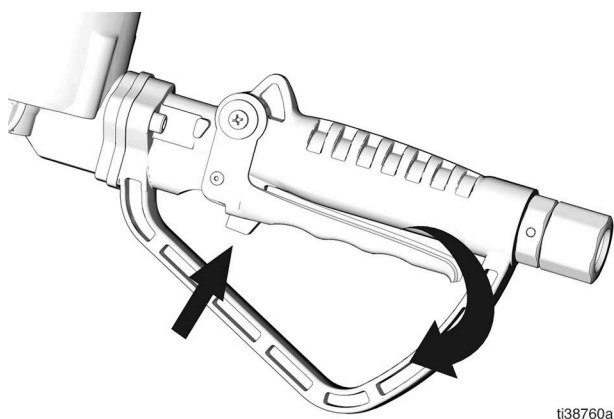

FIG. 5
6. Press the trigger latch button to lock the trigger valve in the open position (FIG. 5).
7. Slowly release the trigger while pressing the trigger latch button (FIG. 5).